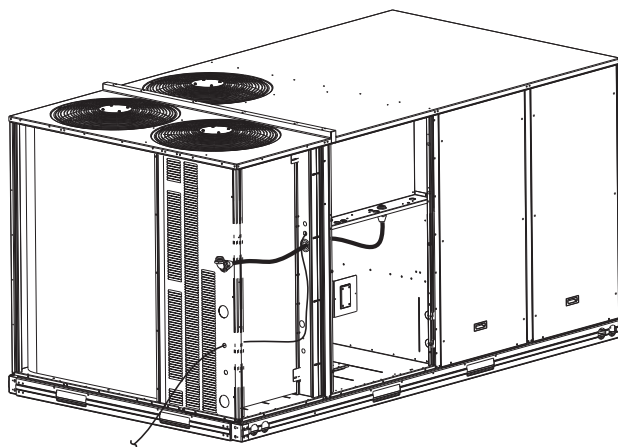

Fig. 53 — Thermostat Wire Routing
Unit without Thru-Base Connection Kit — Pass the thermostat control wires through the bushing on the unit end panel. Route the wire through the snap-in wire tie and up to the web bushing near the control box. Route the wire through the bushing and into the bottom left side of the control box after removing one of the two knockouts in the corner of the box. Using a connector at the control box to protect the wire as it passes into the control box. Pull the wires over to the terminal strip at the upper left corner of the Central Terminal Board (CTB). Use the connector at the control box and the wire tie to take up any slack in the thermostat wire to ensure that it will not be damaged by contact with the condenser coil. See Fig. 53.
1. Route the humidistat 2-conductor cable (field-supplied) through the bushing the unit's louvered end panel (see Fig. 53).
4. Use the connector and the wire tie to reduce any slack in the humidistat cable to ensure that it will not be damaged by contact with the condenser coil (see Fig. 53).